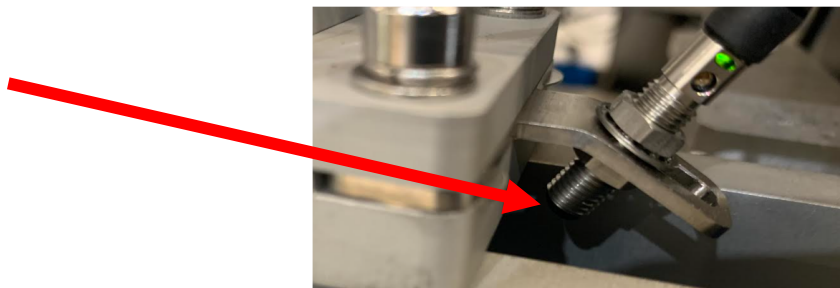

Figure 5-2 Camera lens cleaning
1. Apply a small amount of a rubbing alcohol (Isopropyl Alcohol 70%) directly to the cloth (not directly to the lens; see Figure 5-2) and move in small concentric circles, repeat as necessary, making sure to use small circles to avoid streaks.